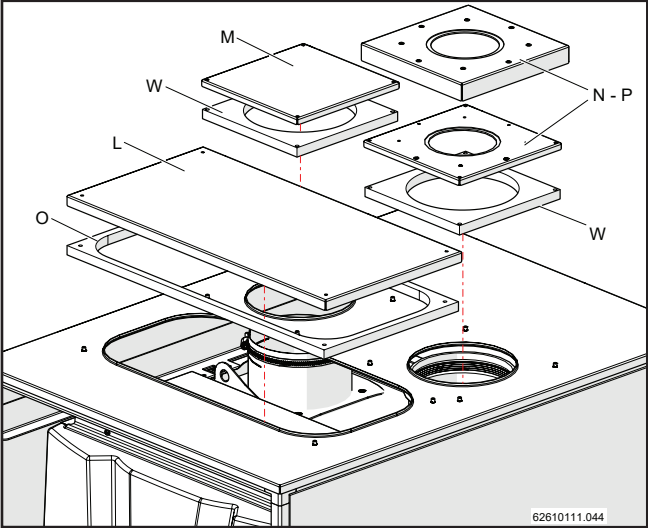

Figure 15-65
- 16.- Attach the shelter for the electrical connections "L", for the intake "M" and for the outlet "N" (or "P") to the top cover using screws "D" (figures 15-65 and 15-66); remembering to insert gaskets "O" and "W" as shown in figure 15-65.
- If you have a flue gas outlet 160 mm in diameter, use outlet covers "N" in figure 15-65.
- If you have a flue gas outlet 110 mm in diameter, use outlet covers "P" in figure 15-65.